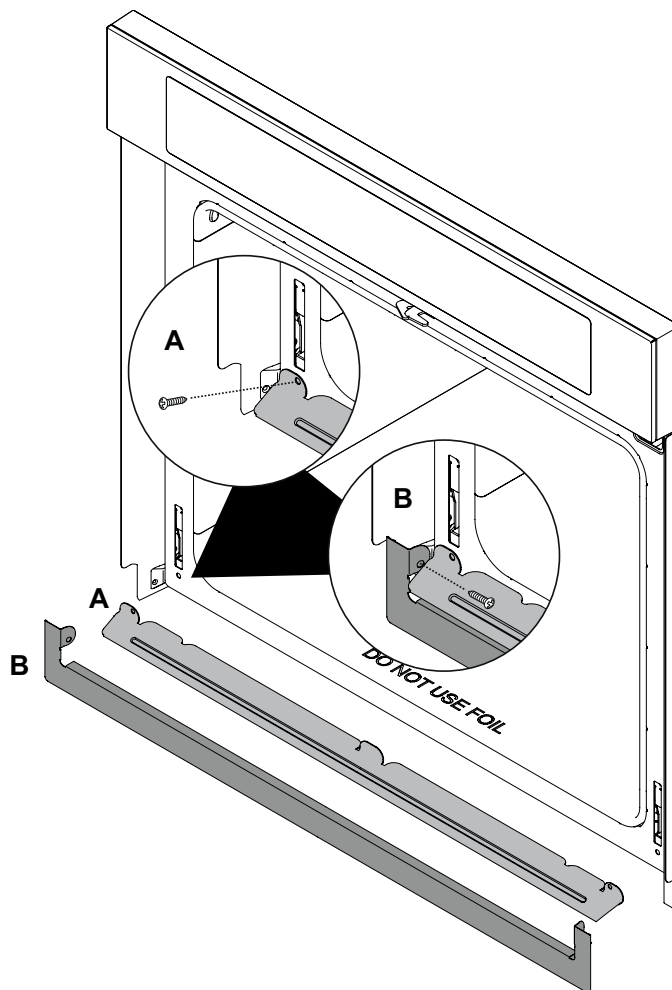

Figure 9
A. Place the air diverter (A) in place as shown in Figure 9. Line up screw locations and attach both ends.
B. Place the color matched trim (B) in place as shown. Line up screw locations and attach both ends.